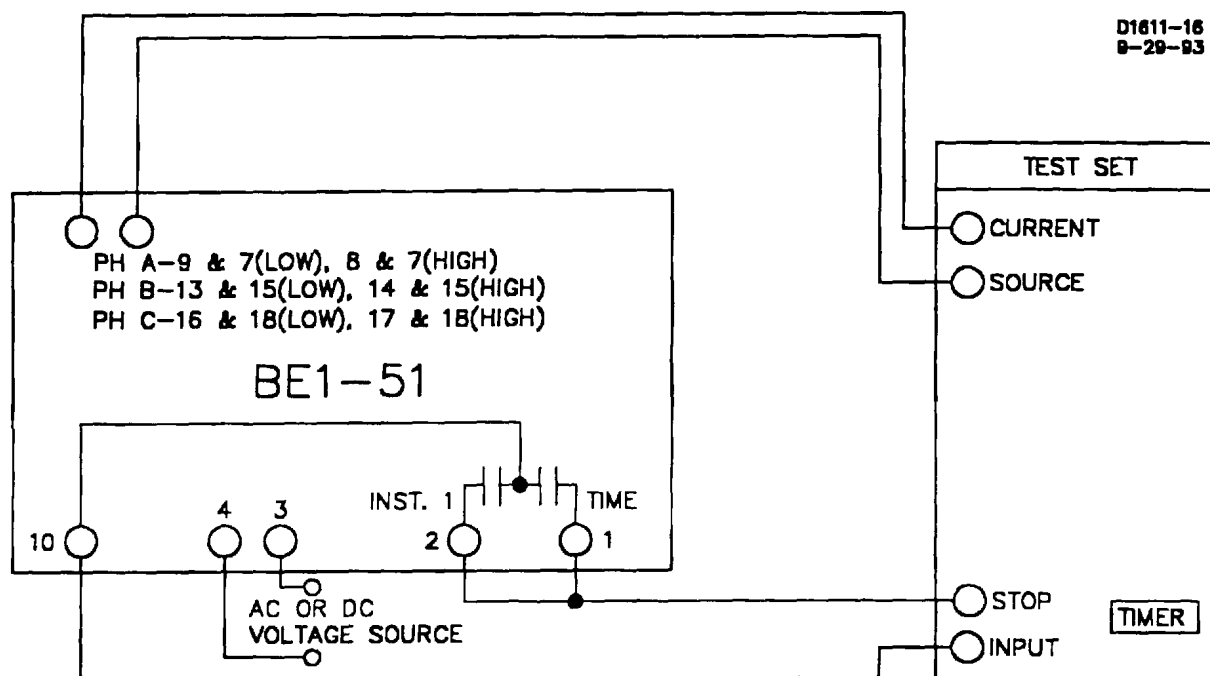

Figure 5-2. Test Setup for Sensing Input Type G (Three-Phase Sensing)
(b) Sensing Input Type G (Three-Phase Sensing). Refer to Figure 5-2.
- (c) Sensing Input Type G (Three-Phase Sensing). Remove the power and reconnect the input sensing to each of the remaining phases as shown in Figure 5-2, each time repeating Steps 1 through 10.